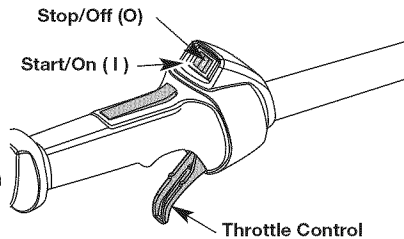

Fig. 10
**NOTE:** There is no need to turn the unit on. The On/Off Control is in the ON (I) position at all times (Fig. 10).
2. Press and hold On/Off Control in the OFF (O) position until engine comes to a complete stop (Fig. 10).